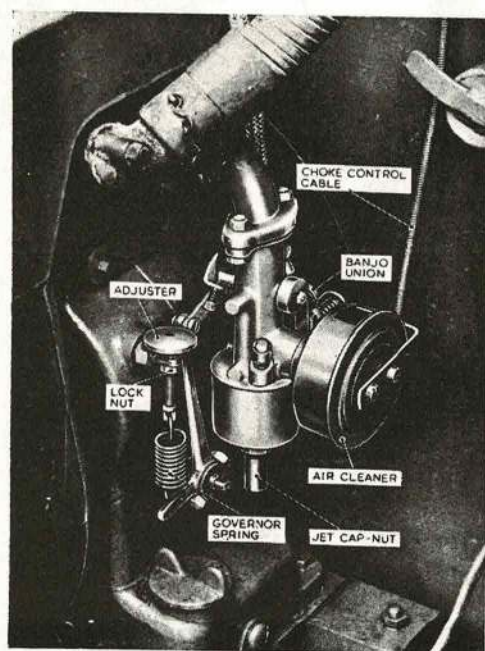

Fig. 8. CARBURETTOR AND GOVERNOR CONTROL
14. **Carburettor.** The engine is fitted with a Villiers adjustable needle jet carburettor (Fig. 8), having a filter fitted in the banjo union above the float chamber. An air filter, incorporating a choke which is operated by